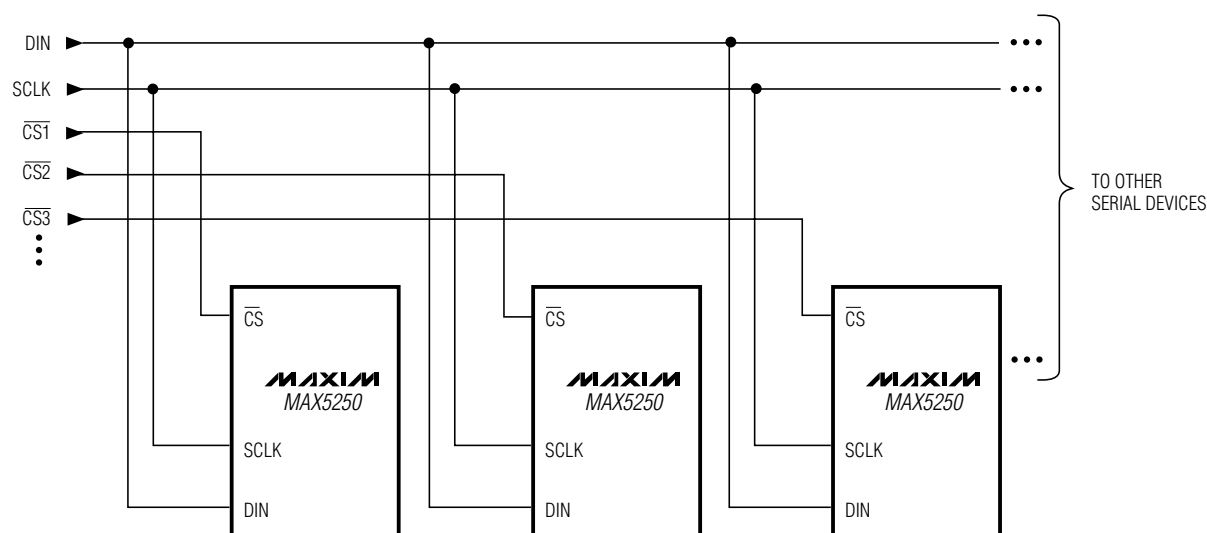

Figure 8. Multiple MAX5250s Sharing a Common DIN Line
Figure 8 shows an alternate method of connecting several MAX5250s. In this configuration, the data bus is common to all devices; data is not shifted through a daisy chain. More I/O lines are required in this configuration because a dedicated chip-select input (CS) is required for each IC.